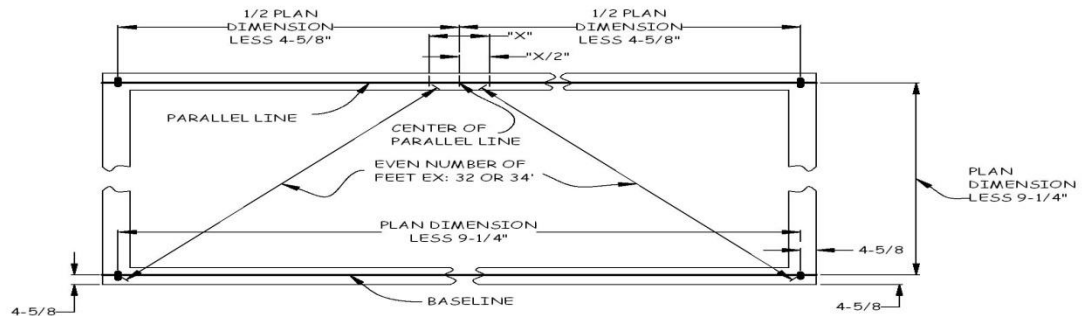

Figure 1-1. Sill Plate Chalk Lines.
1. Establish a Baseline on the longest wall. Assuming the foundation and the blueprint dimensions match, make a pencil mark 4⁵/₈" from the outside edge of the foundation wall. Do this on both ends of the longest wall and snap a chalk line. **This Baseline is the chalk line used to establish all other chalk lines.** If the foundation and the blueprint dimensions do not match, adjust as stated above. Refer to Figure 1-1 for all steps in Section 1.1.2.